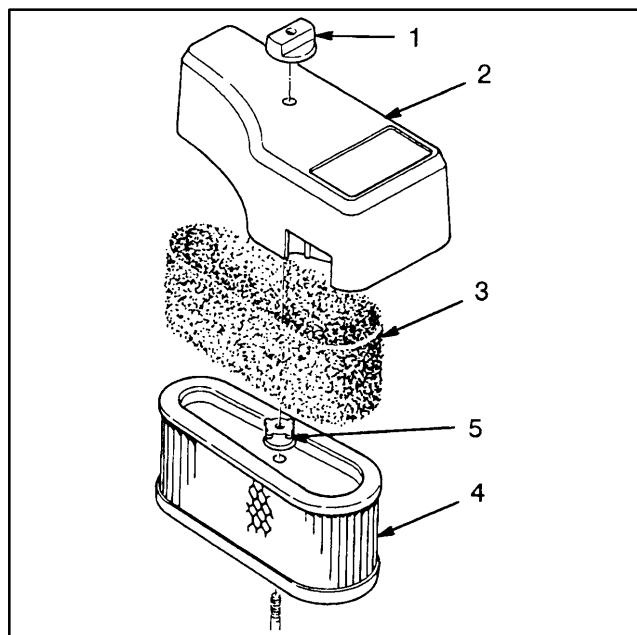

Figure 16
1. Remove the wire from the spark plug (Fig. 16).
2. Remove the knob and air cleaner cover (Fig. 16).
3. Every 25 hours the foam pre-cleaner should be cleaned (Fig. 16). Remove foam pre-cleaner by sliding it off the paper cartridge (Fig. 16).
4. The paper air cleaner cartridge should be replaced every 100 hours. Remove one nut from the top of the paper cartridge (Fig. 16).